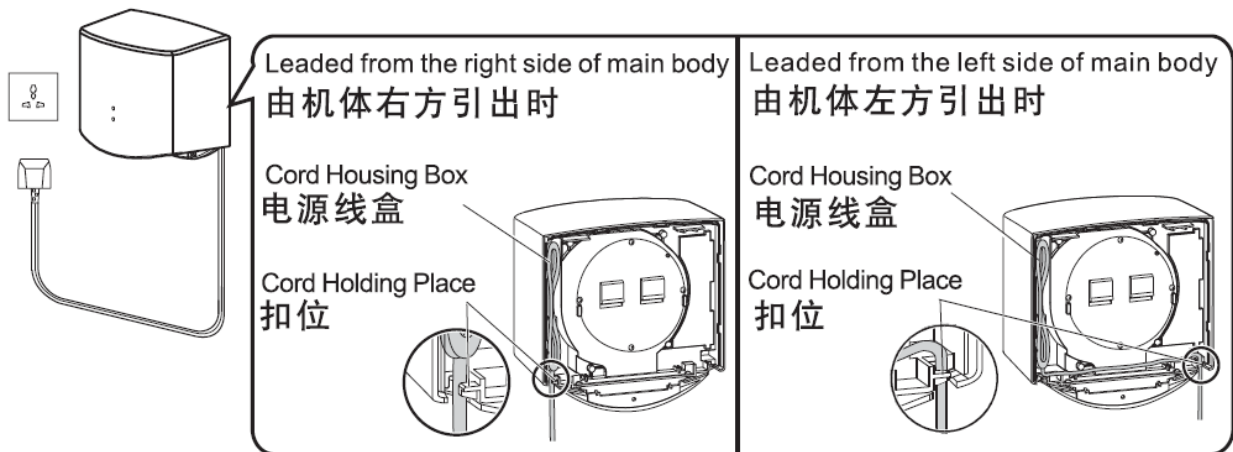

Fig.3 图3
- The power cord should be withheld on the corresponding cord holding place and leaded from the under direction of main body naturally.(Fig 3)
- 主机背部左右两侧各设有一个电源线引出位，请选择离电源插座较近的一侧引出电源线。（图3）